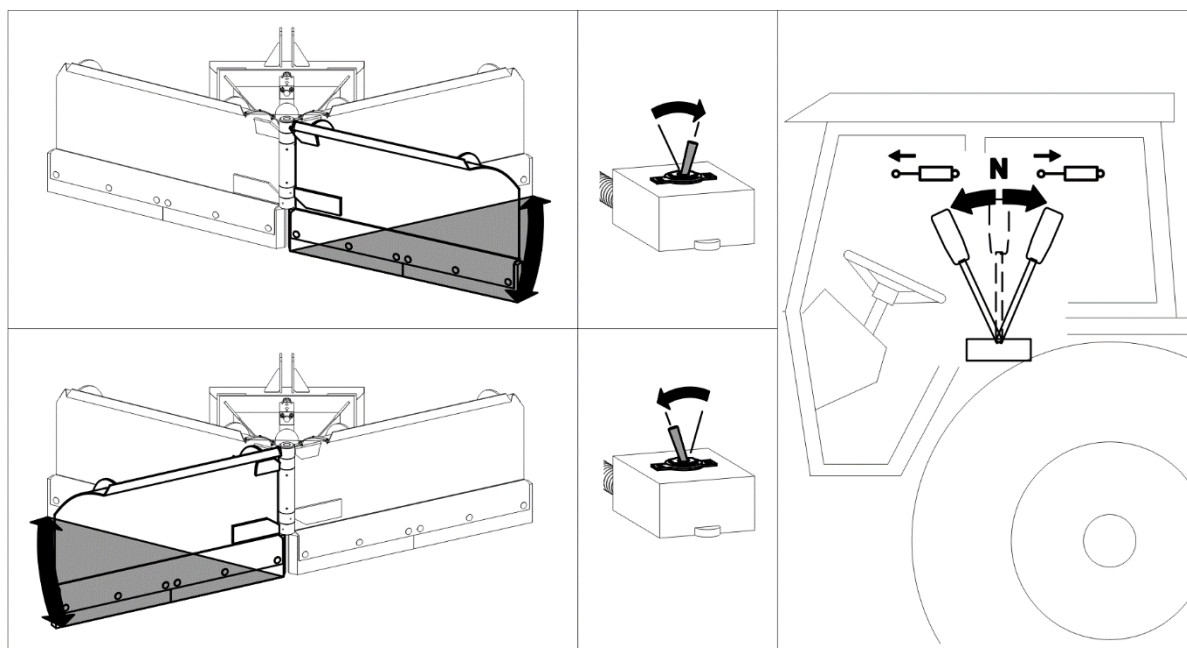
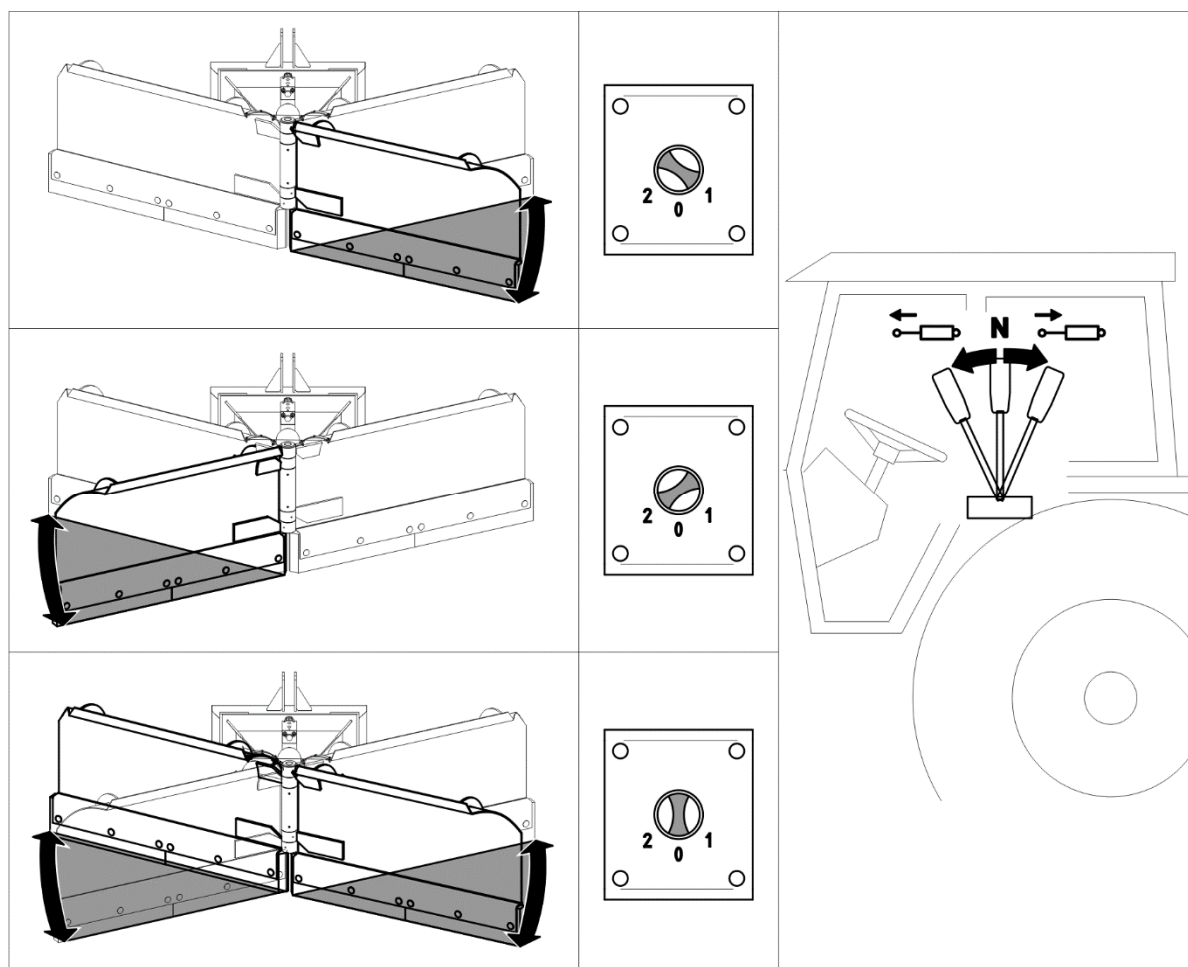

FIGURE 4.7 Setting working position for independent control
FIGURE 4.8 Changing the working position for simultaneous-independent control
Depending on type of control system (independent or independent-simultaneous control), the snow plough can be equipped with 2-position switch (FIGURE 4.7) or 3- position switch (FIGURE 4.8)
When the switch is set to „OFF” or „0” position (switched off), a single snow plough blade can be controlled and when the switch is flipped to „ON” or „I” position (switched on), the other snow plough blade can be controlled (FIGURE 4.7).
Simultaneous-independent control (option) enables setting any position of the snow plough blades (FIGURE 4.8). When the switch is set to position „1“, the left snow plough wing can be
(1)- wheel; (2)- body; (3)- knob; (4)- knob lock, (A) - rising, (B) - lowering
In the snow ploughs equipped with supporting wheel (FIGURE 4.8), the working height adjustment is performed by withdrawal or insertion of wheel (1) in the body (2) by turning the knob (3). The knob is protected by a lock (4). After setting the wheel height, appropriately set knob (3) and secure it with lock (4). It is recommended that both wheels are set at the same height.